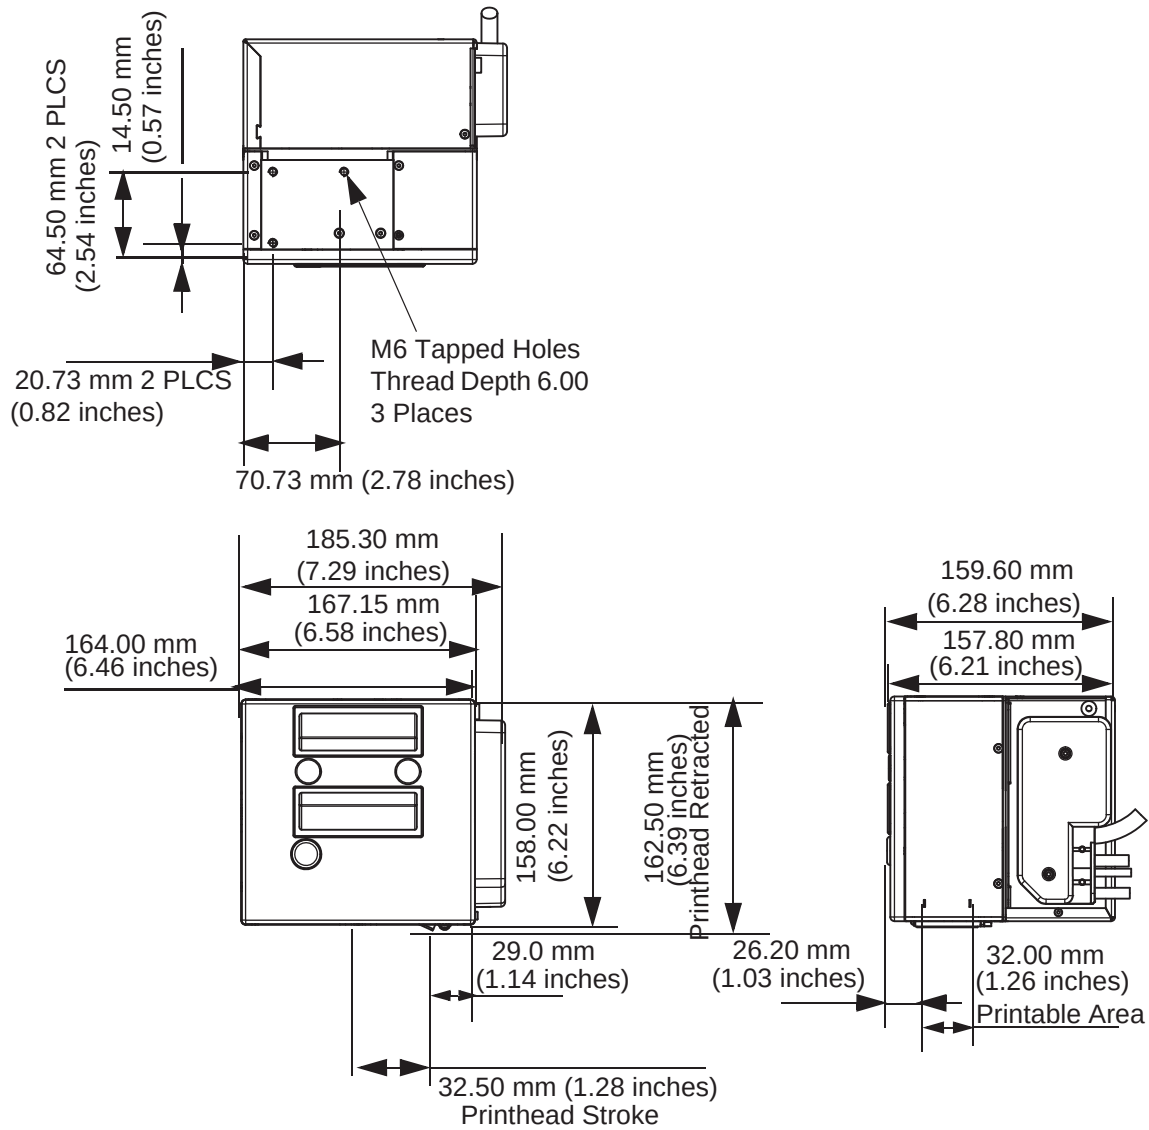

Figure 9-2: Videojet 6210 30 mm LH Printer Dimensions
Figure 9-2 shows the dimensions of the Videojet 6210 (LH) printer.